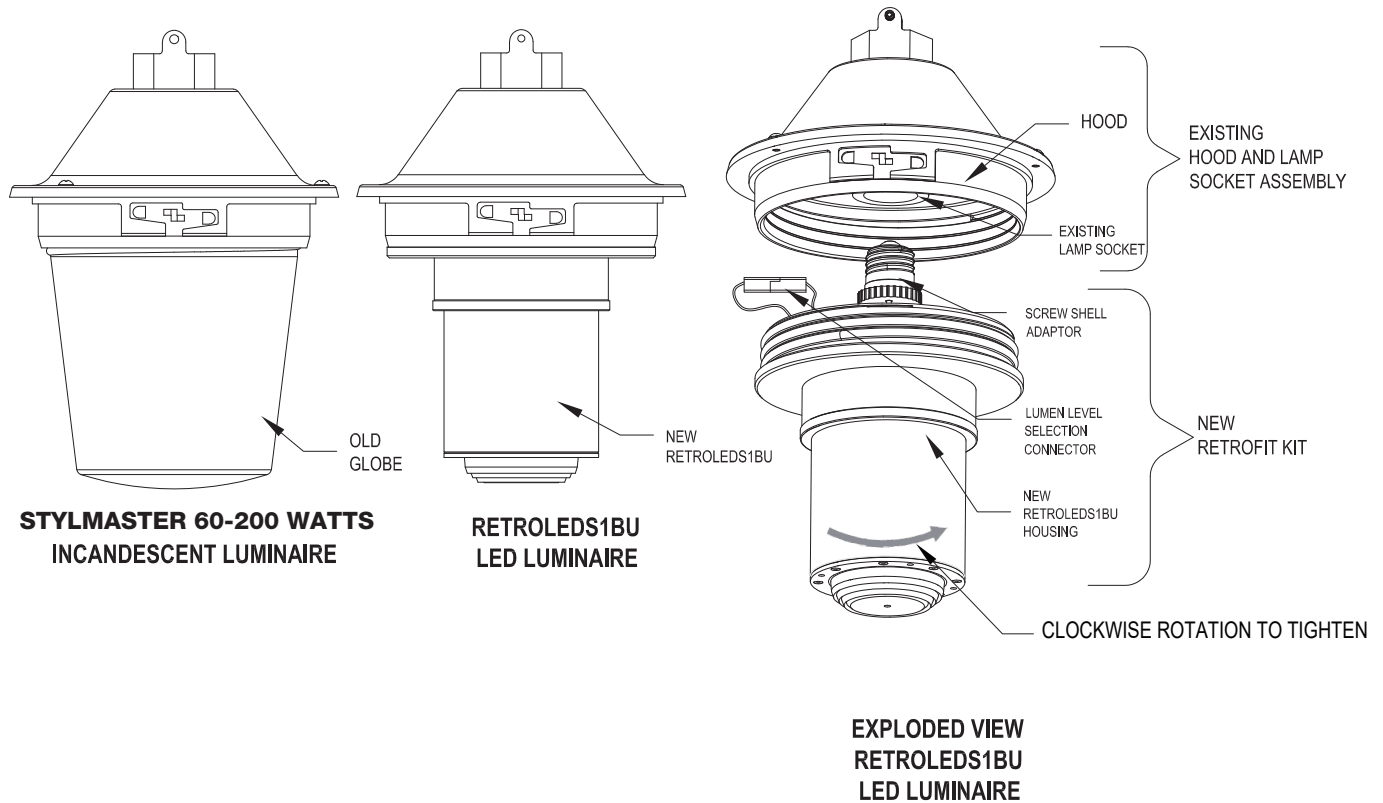

FIGURE 10: STYLMASTER 60-200 WATTS INCANDESCENT LUMINAIRE AS RETROLEDs1BU LED LUMINAIRE
2. Remove the old globe, guard, reflector, and incandescent bulb and dispose/recycle in accordance with local requirements. [See Figure 10 – Stylmaster 60-200 Watts incandescent luminaire as RETROLEDS1BU LED luminaire.]
[See Figure 10 – Stylmaster 60-200 Watts incandescent luminaire as RETROLEDS1BU LED luminaire.]